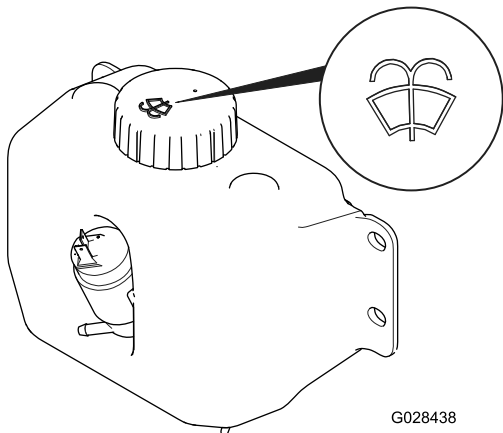

Figure 52
2. Open the hood and locate the washer-fluid bottle (Figure 52).